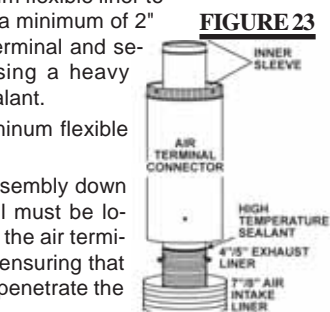

FIGURE 23
4. Apply high temperature sealant to the outer edge of the of the outside sleeve of the air terminal. Slip a 7" diameter coupler over the sleeve and secure as before. **FIGURE 23**. Trim the 7" coupler even with the 4" coupler end.